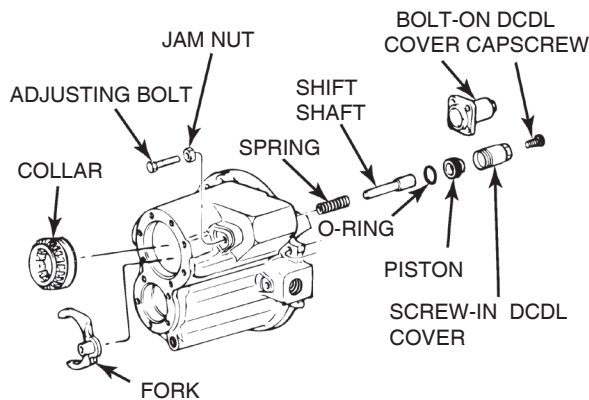

FigurE 3.38
2. Remove the piston from the shift shaft. Figure 3.38.